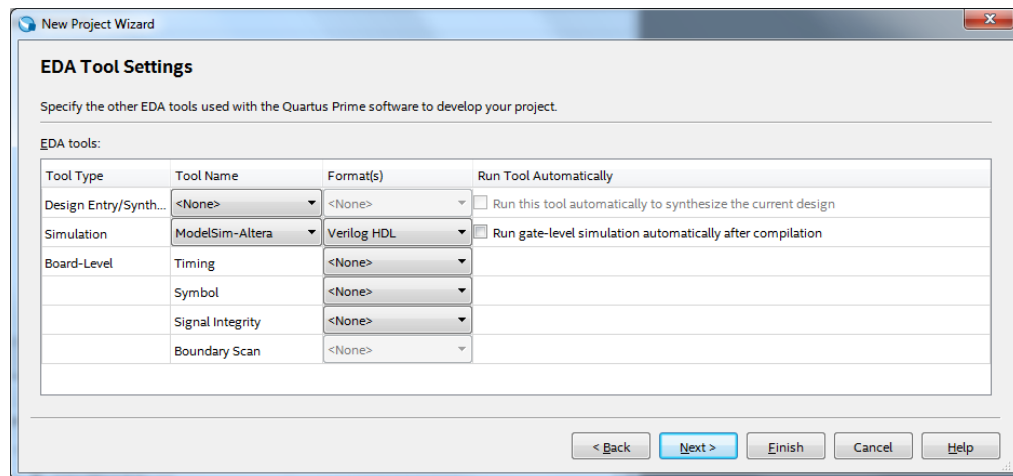

Figure 2. Choosing the ModelSim-Altera simulator
- For Simulation, select the tool **ModelSim-Altera** from the drop-down box and specify the format as **Verilog**, as shown in Figure 2. Quartus will generate a Verilog netlist from your schematic, allowing you to easily simulate your design. Click **Next**, review the Summary, then click **Finish**.